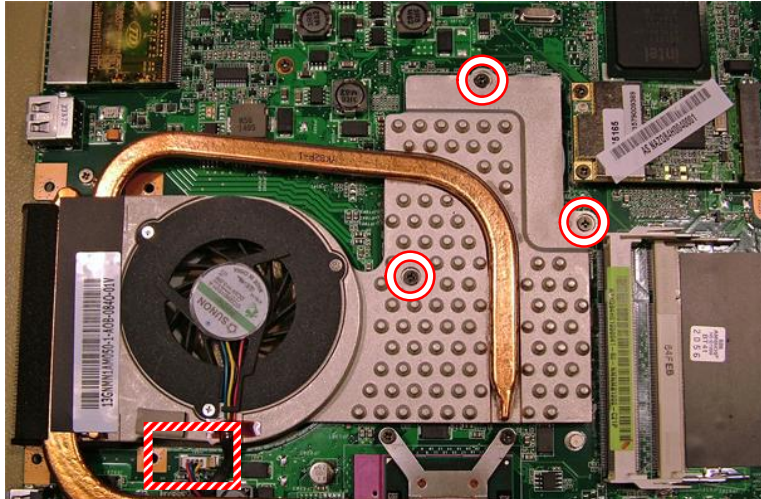

Fig. 32 Location of chipset heat sink screws.
3. Remove the three screws securing the heat sink in designated order (see Fig. 32).